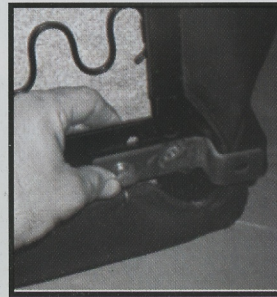

Fig.11
(96 01 XJ, 97 02 TJ): Use (4) step brackets, (4) nut plates, (4) M13 bolts, and (4) M13 flat washers to mount step brackets to seat (Fig.11). Use supplied image of seat base to confirm brackets have been placed in the correct left, or right orientation. Do not tighten bolts until seat has been secured to factory seat riser. This will allow adjustment during installation.